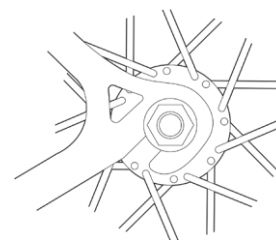

fig. 13
12a). With a through bolt or bolt on mechanism, loosen the fastener(s) with an appropriate wrench, lock lever or integral lever (fig 13); then push the wheel forward far enough to be able to remove the chain from the rear sprocket.
7. With a through-bolt or bolt-on system (fig. 13), tighten the fasteners to the torque specifications in Appendix D or the hub manufacturer's instructions. Use the correct size wrench; tighten the axle nuts enough so that the wheel stays in place; then use a wrench on each nut simultaneously to tighten the nuts as tight as you can.